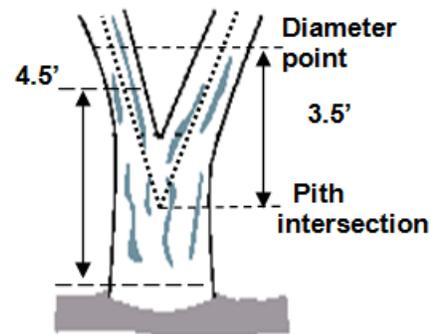

Figure 3 - Trees Forked Between 1.0 Foot and 4.5 Feet
b. Trees forked between 1.0 foot and 4.5 feet. Trees forked between 1.0 foot and 4.5 feet are counted as separate trees (Figure 3, Figure 5 D-F). The DBH of each fork is measured at a point 3.5 feet above the pith intersection. When forks originate from pith intersections between 1.0 and 4.5 feet, the limiting distance is different for all forks—one fork may be on and another fork may be off the plot.